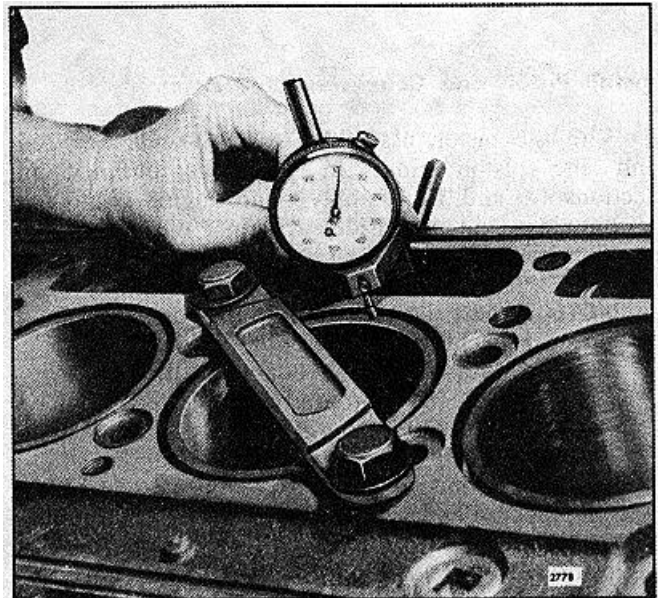

Fig. 9 - Checking Distance of Liner Flange Below Top Face of Block with Tool J 22273-01
4. Install a cylinder liner hold-down clamp (J 21793-B) as illustrated in Fig. 9 and tighten the two bolts to 50 lb-ft (68 Nm) torque.
5. Measure the distance from the top of the liner to the top of the block with a dial indicator (Fig. 9). The liner flange must be .045" to .050" below the surface of the block. However, even though all of the liners are within these specifications, there must not be over .002" difference between any two adjacent liners when measured along the cylinder longitudinal center line.